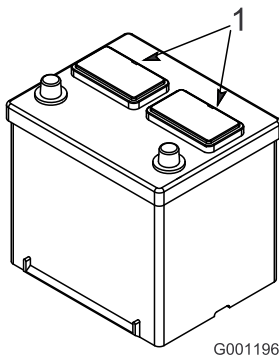

Figure 9
2. Clean the top of the battery and remove the vent caps (Figure 9).